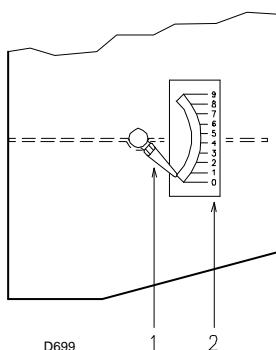
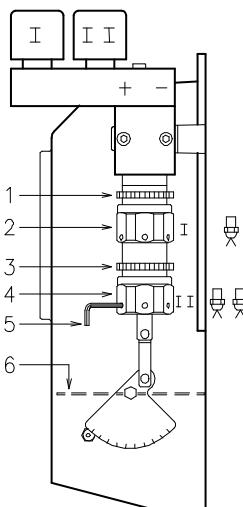

Fig. 23
Fig. 24
Keep the burner operating at 1st stage by setting the switch 2) (Fig. 22) to the 1st stage position. Opening of the air gate valve 6) (Fig. 24) must be adjusted in proportion to the selected nozzle: the index 1) (Fig. 23) must be aligned with the notch 2) (Fig. 23) specified in table (Tab. E). This adjustment is achieved by turning the hex element 2) (Fig. 24):
2.3 notch (Fig. 23) aligned with index 1).
When the adjustment is terminated lock the hex element 2) (Fig. 24) with the ring nut 1).
N° = Notch 2) (Fig. 23)
Set switch 2) (Fig. 22 pag. 19) to the 2nd stage position and adjust the air gate valve 6) (Fig. 24) by turning the hex element 4) (Fig. 24), after having loosened the ring nut 3) (Fig. 24).